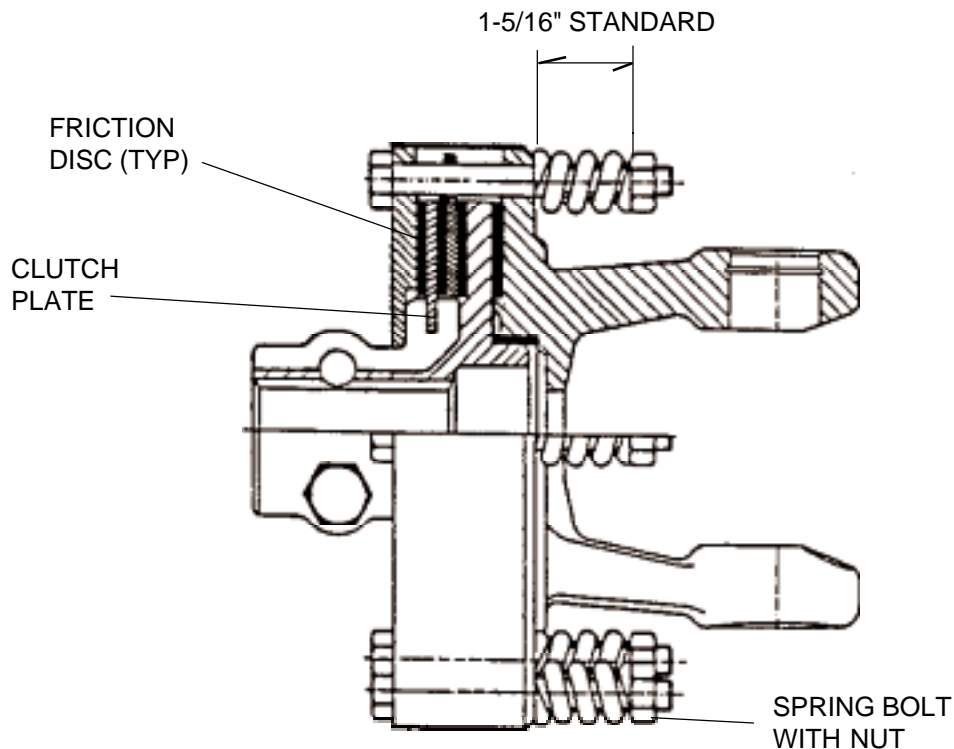

FIGURE 10. Slip Clutch Maintenance
1. Loosen nuts (1) **FIGURE 10** until the spring is free, and then retighten approximately one turn.